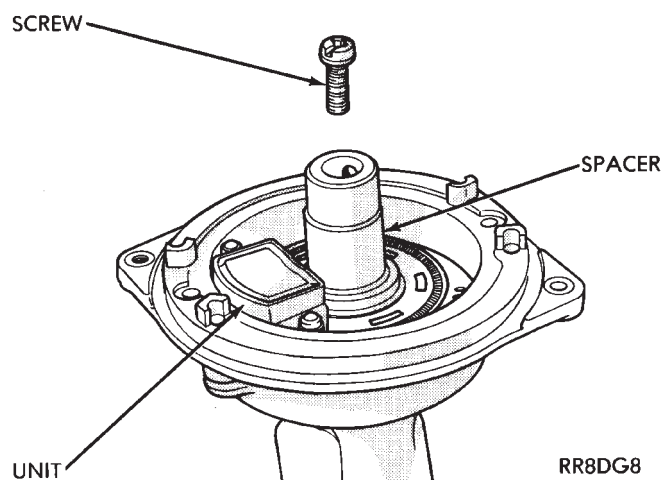

Fig. 27 Disk Assembly Screw
- (6) Remove disk assembly screw (Fig. 27).